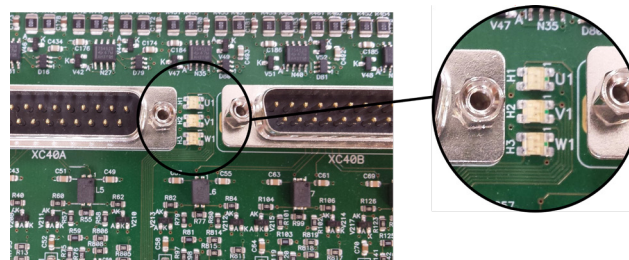

Figure 6.1: LEDs that indicate fault on the arms of the power units (desaturation)
(1) For the CFW11M G2 RB or CFW11W G2 RB, the HMI does not indicate in which UP11 G2 (UP11W G2) the fault occurred. LEDs on the ICUP board indicate which UP11 (UP11W) caused the fault, Figure 6.1 on page 6-7. When the reset is executed, the LEDs turn off and turn back on if the fault persists.